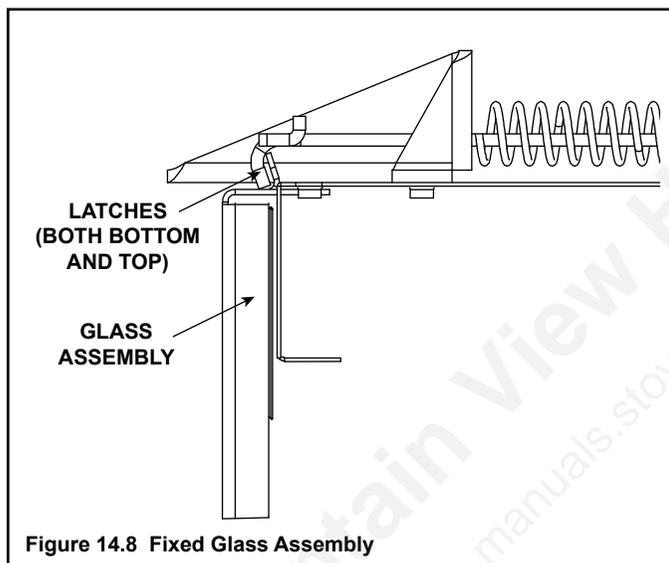

Figure 14.8 Fixed Glass Assembly
- Pull the four glass assembly latches out of the groove on the glass frame. Remove glass door from the appliance (see Figure 14.8).